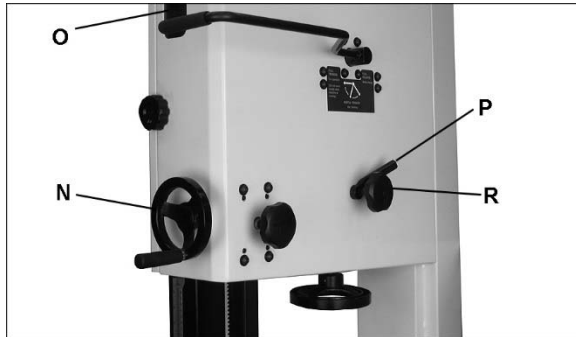

Figure 7-13
Refer to Figures 7-13 and 7-14.
3. Make sure blade guides and other parts of machine will not interfere with blade movement. Use handwheel (N) to lower guide post until you can see blade through tracking window (O, Figure 7-13).
8. Loosen locking handle (P, Figure 7-13) and slightly rotate tracking knob (R) with your right hand while continuing to rotate wheel with your left. Observe blade through tracking window. Rotating knob clockwise will cause blade to move toward rear edge of wheel. Rotating knob counterclockwise will cause blade to move toward front edge of wheel.
9. When blade is tracking in center of wheel, re-tighten locking handle (P), and close upper door.